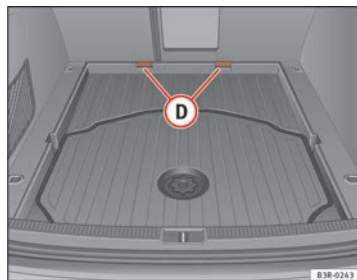

Fig. 125 Floor panel removed for increased luggage space
- Pull the complete floor panel towards the rear of the vehicle so it comes out of the retainers **D** ⇒ fig. 125.